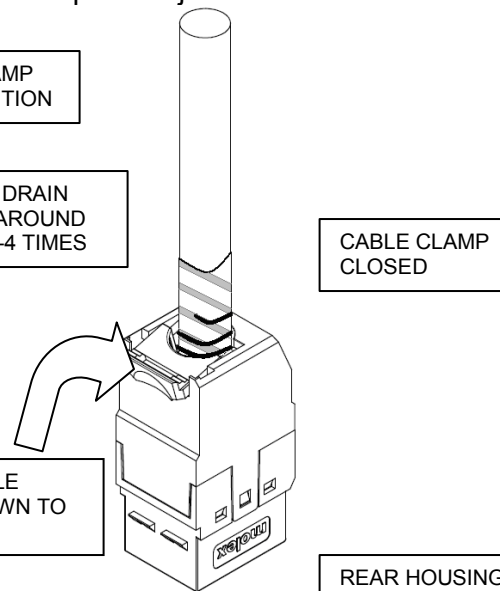

Fig. 6
3. Snap rear housing to jack (see Fig. 6)
4. Push clamp down to close clamp (see Fig. 6)